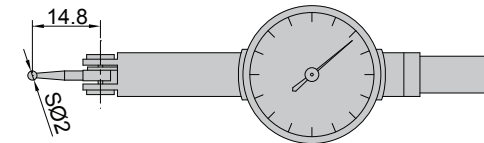

fig.8
4. Each type of dial test indicator has specific length of styli(fig.8). If the length is not correct, measurement error will result. Please don't change styli.